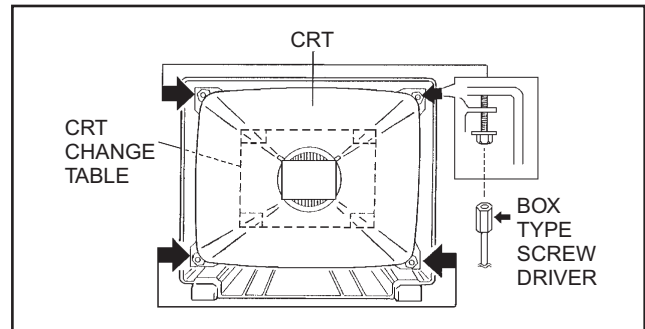

Fig.4
- (3) Remove 4 screws marked by arrows with a box type screwdriver as shown in Fig. 4.